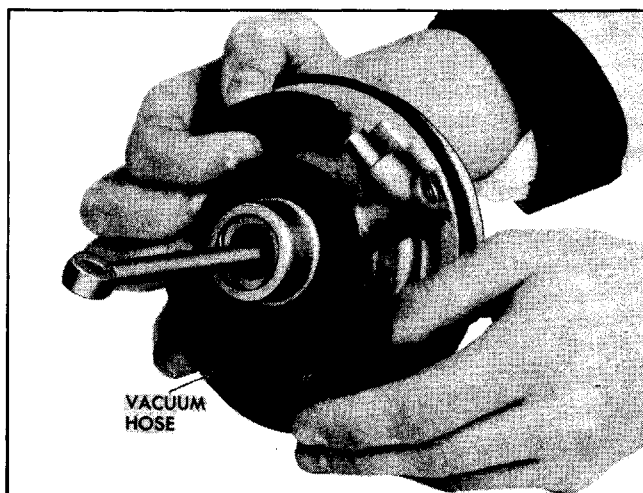

Fig. 5-51 Removing or Replacing Vacuum Hose at Power Piston
1. Remove vacuum hose from power piston assembly if it is to be replaced. **NOTE:** Hose is cemented to tube (Fig. 5-51).